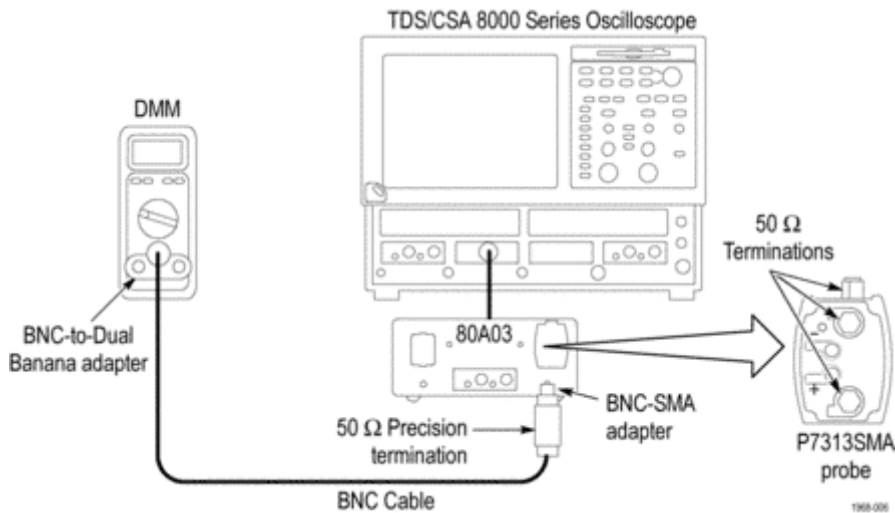

Figure 27: Setup for the output offset zero test
1. Connect the equipment as shown. (See Figure 27.)